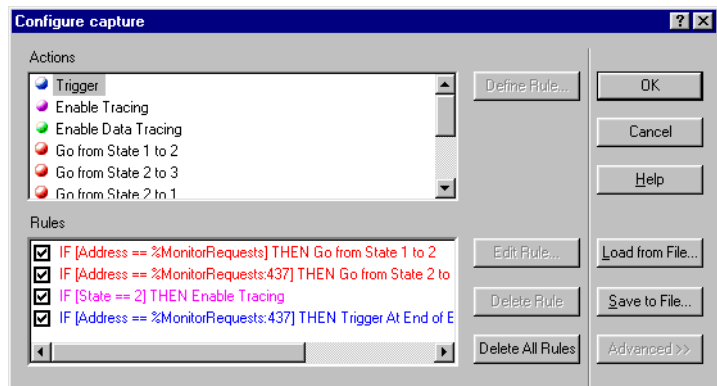

Figure 8-46 Completed Capture dialog box
7. Click **Finish** to complete the rule. The Configure capture dialog box shown in Figure 8-46 now has four rules in the Rules list.